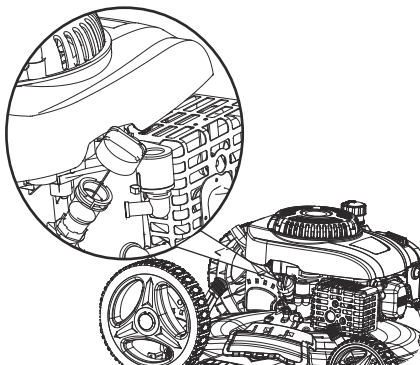

Fig. 7
1. Remove the dipstick. (Fig. 7)